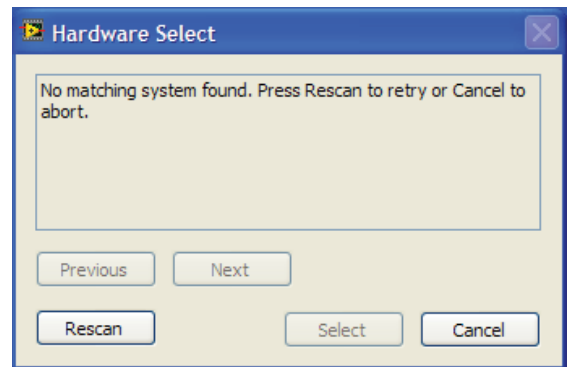

Figure 8. Pop-Up Window Error
2. If the SDP-B board is not connected to the USB port when the software is launched, a connectivity error is displayed (see Figure 8). Connect the evaluation board to the USB port of the PC, wait a few seconds, click **Rescan**, and follow the instructions.